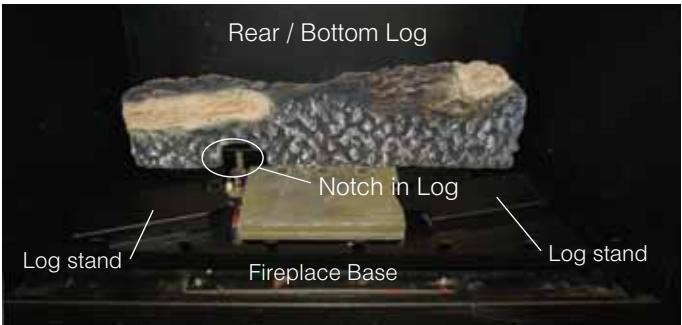
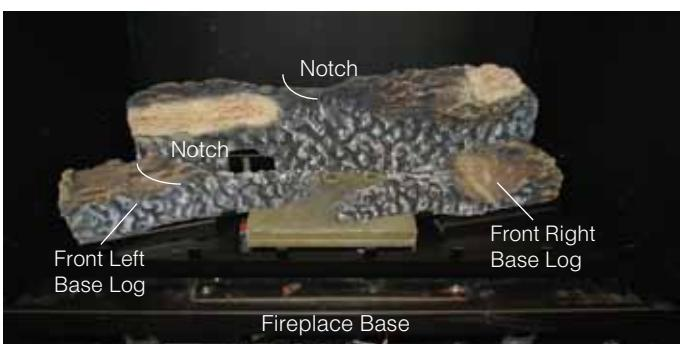
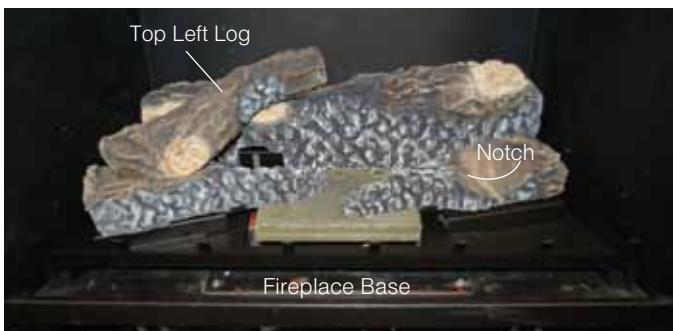

Figure 29b. Bottom/Rear log placement.
Figure 29c. Front base logs placement.
Figure 29d. Top Left log placement.
2. Install Bottom Rear log as shown in **Figure 29b**.
3. Install Both front base logs, (**Figure 29c**) on the log stands provided. See **Figure 29b**.
4. Place the top left log as shown in **figure 29d**. A flat area is provided on the front left log, and a notch in the Rear bottom log, as shown in **figure 29c**.